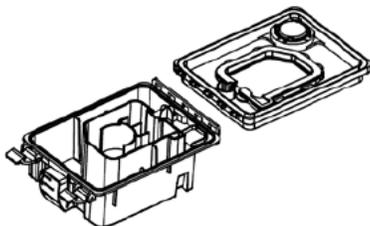

Fig. 5-5
(2) **Cleaning the Water Chamber:** Wash the two parts of the water chamber, as shown in Fig. 5-5. You may also clean them with a scouring pad (dip the scouring pad in washing liquid if necessary), rinse them thoroughly, and then wipe them dry with a soft cloth.